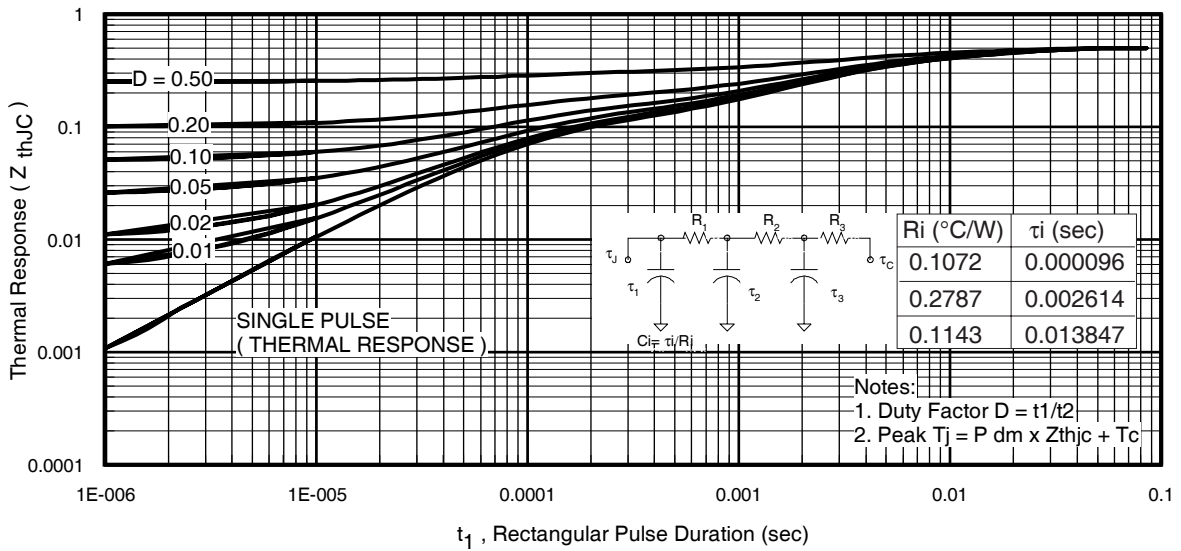
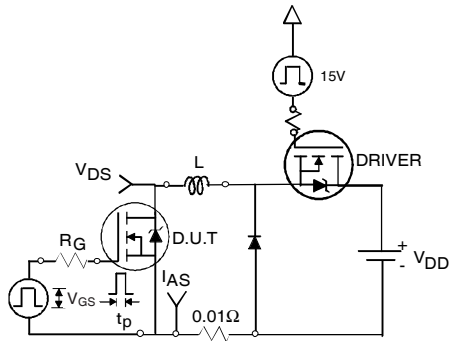

Fig 11. Maximum Effective Transient Thermal Impedance, Junction-to-Case
Fig 12a. Unclamped Inductive Test Circuit
- ① Repetitive rating; pulse width limited by max. junction temperature. (See fig. 11).
- ② Limited by T_{Jmax} , starting $T_J = 25^\circ\text{C}$, $L = 0.026mH, R_G = 25\Omega, I_{AS} = 110A, V_{GS} = 10V$. Part not recommended for use above this value.
- ③ Pulse width $\leq 1.0ms$; duty cycle $\leq 2\%$.
- ④ $C_{oss\ eff.}$ is a fixed capacitance that gives the same charging time as C_{oss} while V_{DS} is rising from 0 to 80% V_{DSS} .
- ⑤ Limited by T_{Jmax} , see Fig.12a, 12b, 15, 16 for typical repetitive avalanche performance.
- ⑥ This value determined from sample failure population. 100% tested to this value in production.
- ⑦ This is applied to D²Pak, when mounted on 1" square PCB (FR-4 or G-10 Material). For recommended footprint and soldering techniques refer to application note #AN-994.
- ⑧ R_{θ} is measured at T_J of approximately 90°C .
3. Equation below based on circuit and waveforms shown in Figures 12a, 12b.
$Z_{thJC}(D, t_{av})$ = Transient thermal resistance, see figure 11)